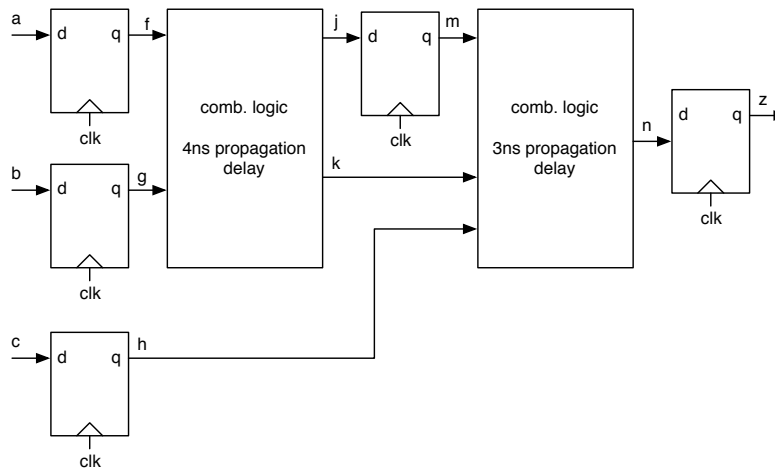

Figure 1. (Problem 1)
1. Consider the system shown in Figure 1. Assume each flip-flop has a **2 ns propagation delay**, a **3 ns setup time**, and a **1 ns hold time**. What is the shortest possible clock period? What is the fastest possible clock frequency? Explain your answers clearly.